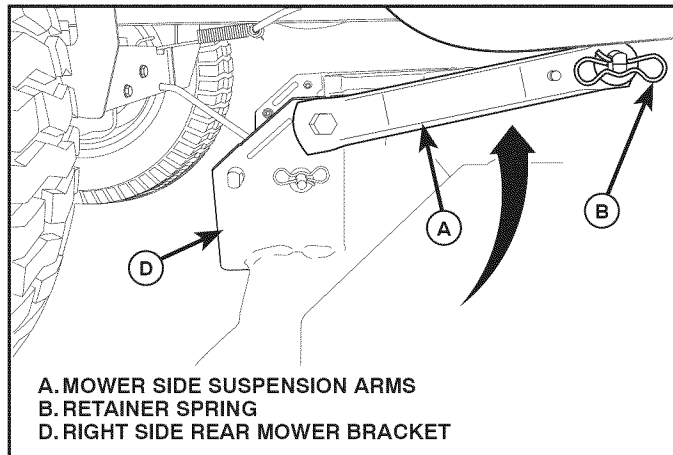

Fig. 32
6. ATTACH MOWER SIDE SUSPENSION ARMS (A) TO CHASSIS (See Fig. 32)
- Position front hole in side suspension arm (A) over pin on outside of tractor chassis and secure with large washer and large retainer spring (B).